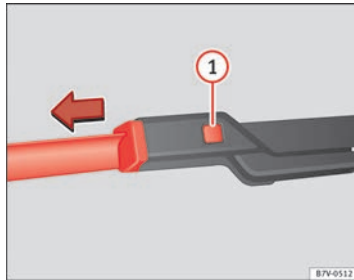

Fig. 116 Changing the front windscreen wiper blades
- Hold down the release button ⇒ Fig. 116 ① while gently pulling the wiper blade in the direction of the arrow.